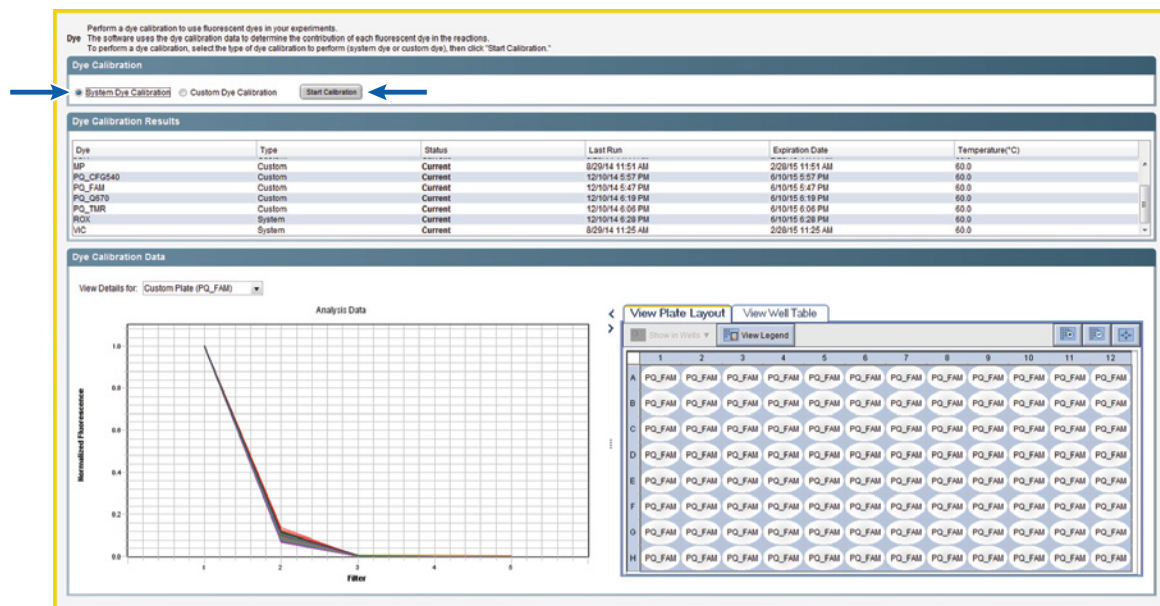

Figure 11. Selecting “System Dye Calibration” and the Start Calibration button.
16. To calibrate CXR, in the Dye screen select “System Dye Calibration”, and select the **Start Calibration** button (Figure 11).